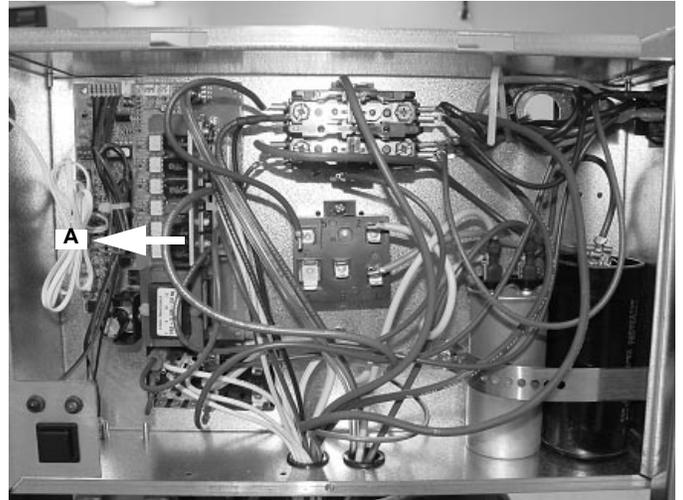

Figure 15.
- (Figure 15) Curtain Switch (A) – white low voltage plug harness (Control board)